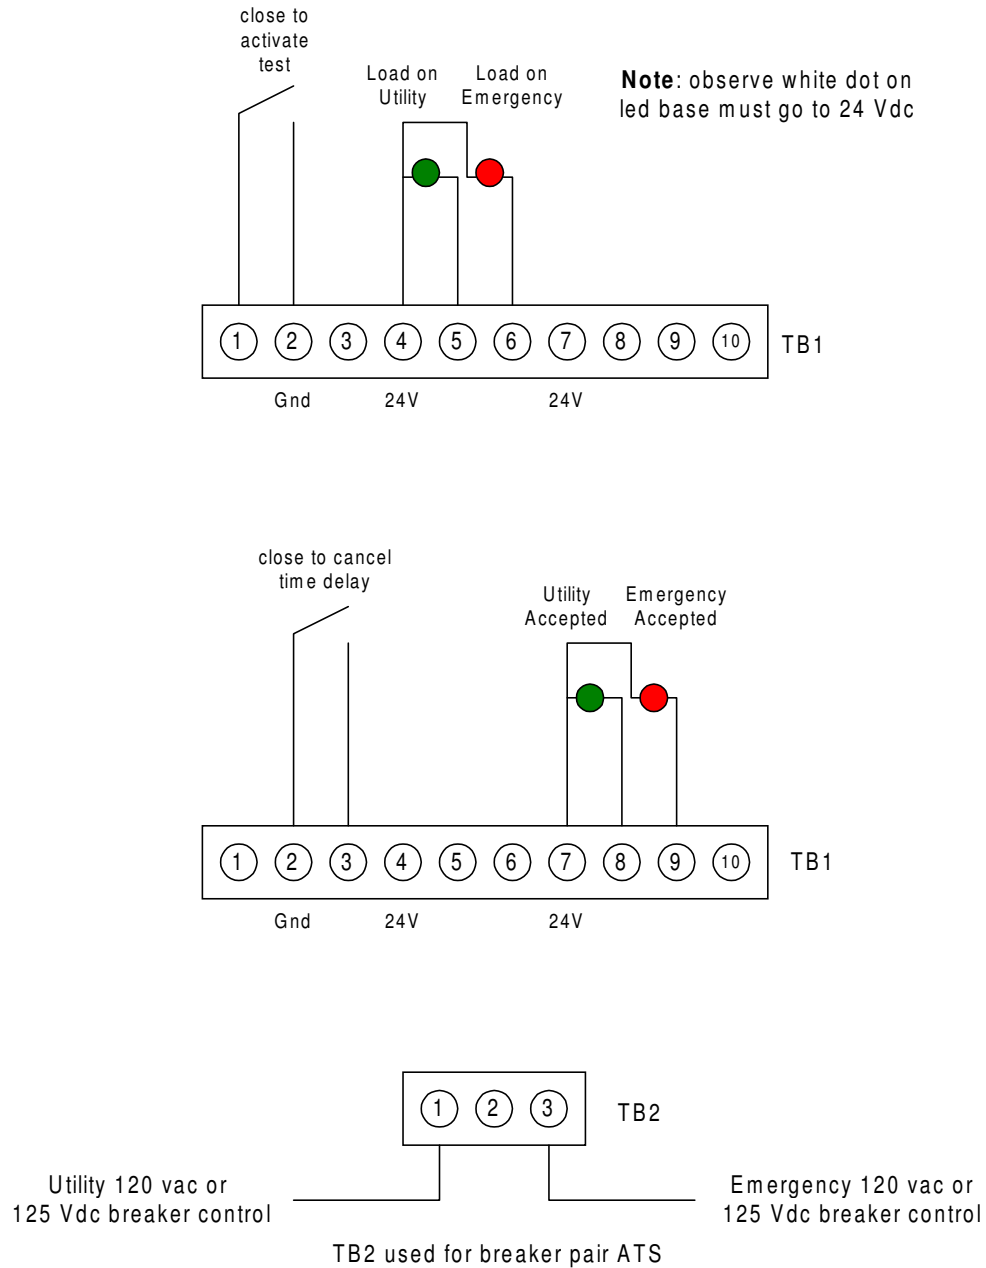

Figure 8
The Mini Controller has limited features unlike the PMCP Controller. It is meant to operate a standard Open transfer scheme without any accessories. The Mini is not programmable and only contains a 4-position dip switch to setup three operating parameters: refer to Figure 8.
- A 10 position terminal block is provided for accessing the features within the Mini Controller. These features are inputs and outputs. The inputs are activated by connecting the input to 24 Vdc ground and the outputs drive 24 Vdc leds and 24 Vdc relays: refer to Figure 8 and Table 6.